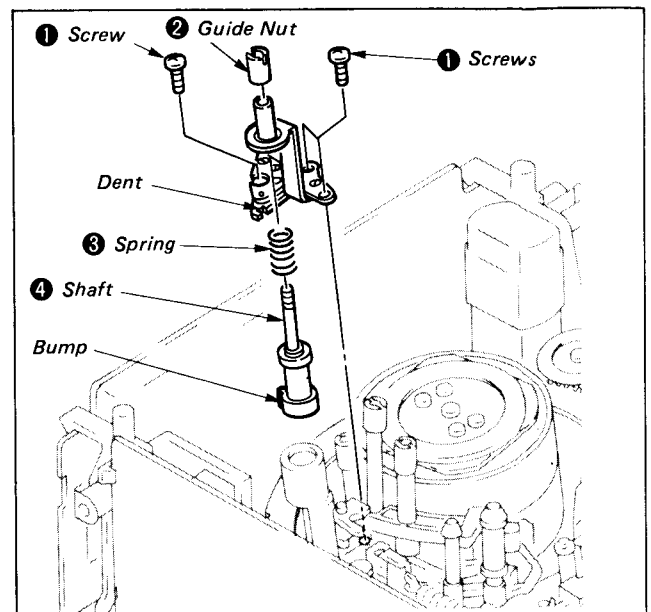

Fig. 1-55
- 2) Remove three screws ① and No. 5 guide assembly.
- 3) Remove the guide nut ②, the spring ③ and the shaft ④. (See Fig. 1-55.)
- 1) Reinsert the spring ③ in the shaft ④, reengage the dent and bump in the lower parts, and tighten the guide nut ②.
- 2) Remount the No. 5 guide assembly and tighten three screws ①. (See Fig. 1-55.)